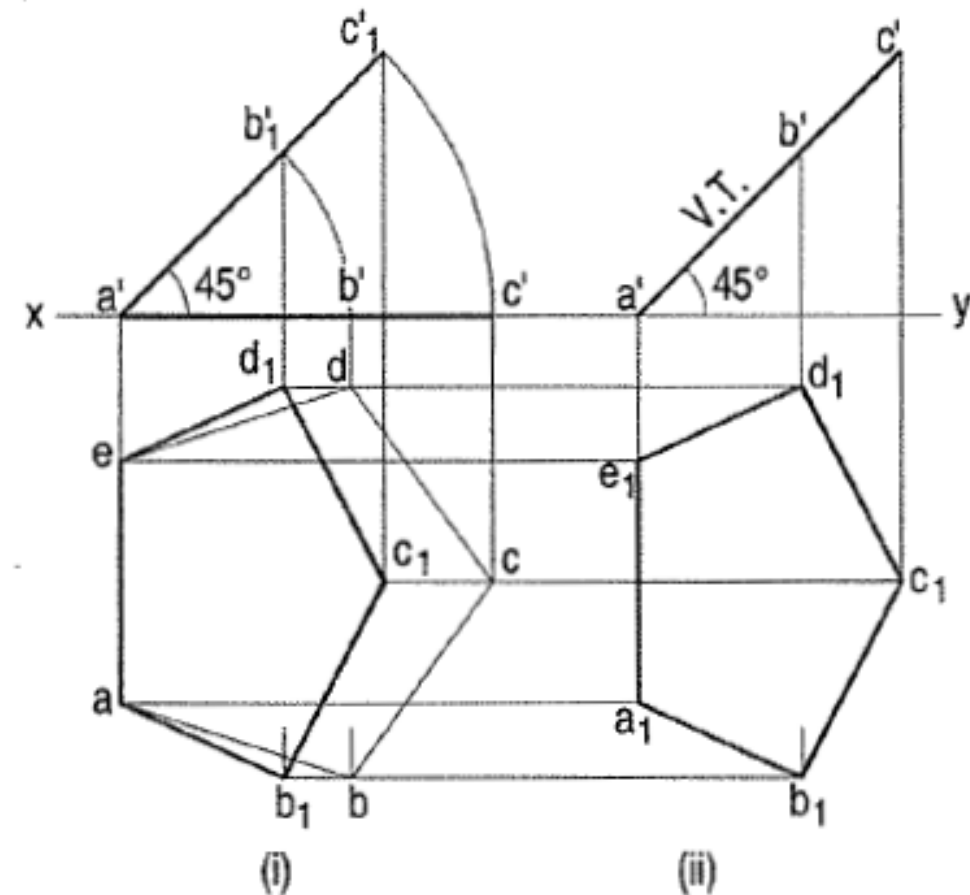

FIG. 12-10
Problem 12-4. (fig. 12-10): A regular pentagon of 25 mm side has one side on the ground. Its plane is inclined at 45° to the H.P. and perpendicular to the V.P. Draw its projections and show its traces.
- (i) Draw the pentagon in the top view with one side perpendicular to xy [fig. 12-10(i)]. Project the front view. It will be the line $a'c'$ contained by xy .
- (iii) Project the new top view $ab_1c_1d_1e$ upwards from this front view and horizontally from the first top view. It will be more convenient if the front view is reproduced in the new position separately and the top view projected from it, as shown in fig. 12-10(ii). The V.T. coincides with the front view and the H.T. is perpendicular to xy , through the point of intersection between xy and the front view-produced.